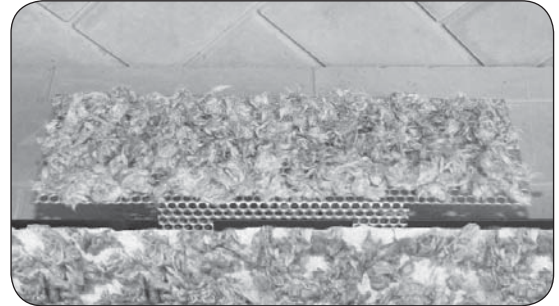

Fig. 12-2 Cover screen with embers
2. Cover the surface of the ember screen with the additional glowing embers as shown in Fig. 12-2.